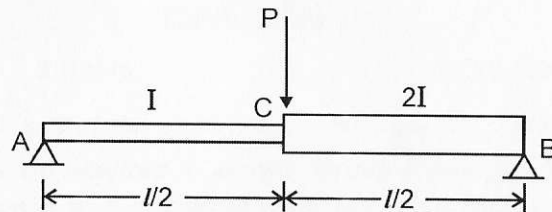

Figure 8
8. (a) A simply supported beam AB carrying a load P at the middle has cross-sectional moment of inertia I over the left half of the span and $2I$ over the right half as shown in Fig.8. Using the moment-area method, find the angles of rotation θ_A and θ_B of the end tangents and the deflection under load P .